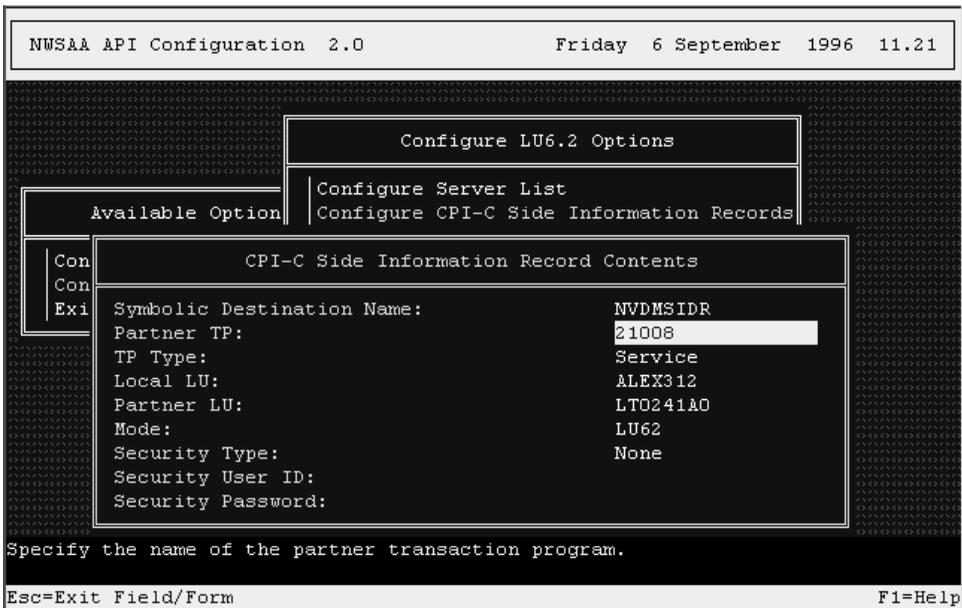

Figure 28. Configuring CPI-C Side Information records
- 2 Configure the two CPI-C side information records to associate them with the local transaction programs, as shown in Figure 28.